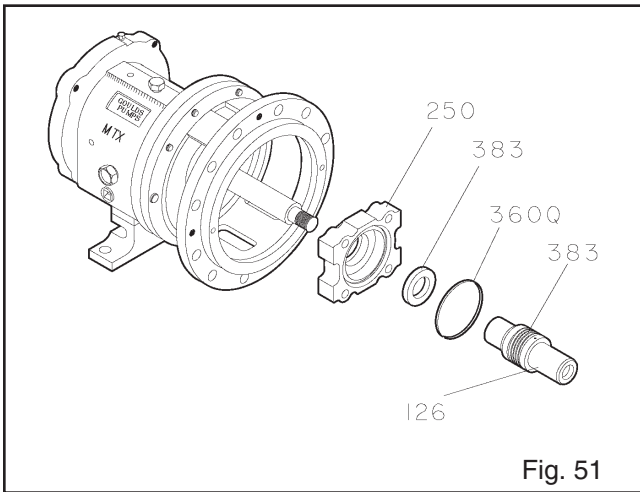

Fig. 51
4. Remove shaft sleeve (126), if used.
**NOTE:** Mechanical seal is attached to sleeve (126). Rotary portion of seal needs to be removed from sleeve by loosening set screws and sliding it off the sleeve. Refer to mechanical seal instructions.
- Remove gland (250) with stationary seat and O-ring (360Q) (Fig. 51).